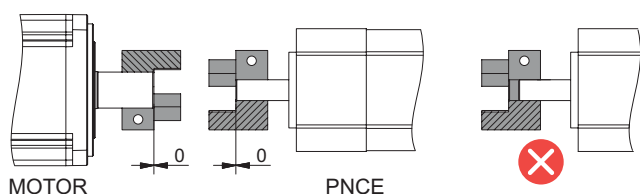

Figure 17: Coupling hubs and journals alignment.
STEP 2: Place the coupling hub 1 6 on the drive journal of the PNCE. Ensure that the coupling hub 1 6 and the drive journal of the PNCE are correctly aligned, see Figure 17. Tighten the coupling hub screw 1 6 with the coupling tightening torque.
Ensure that the coupling hub **2 7** and the motor journal are correctly aligned, see Figure 17.